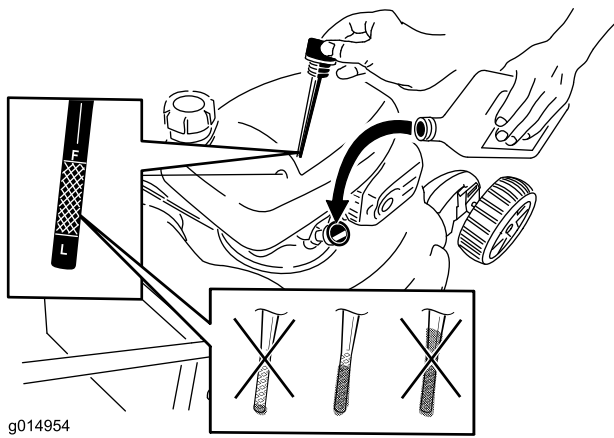

Figure 10
1. Remove the dipstick, wipe it clean, and fully install the dipstick (Figure 10).
- Remove the dipstick and check the oil level (Figure 10). If the oil level is below the **Add** mark on the dipstick, **slowly** pour oil into the oil fill tube to raise the oil level to the **Full** mark on the dipstick. **Do not overfill.** (Max. fill: 19 oz (0.55 L), **type: SAE 30 automotive grade oil** with an API service classification of SL, SM, or higher. SAE 10W30 may be used if SAE 30 is not readily available.)